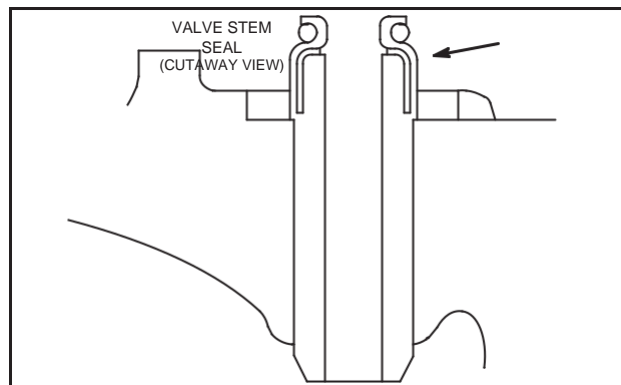

Fig. 18 - Install Valve Stem Seals
- Use a 60° cutter to narrow seat from bottom and a 15° cutter to narrow seat from top, Fig. 18.
- b. Press seal on to valve guide bushing until it bottoms, Fig. 18.